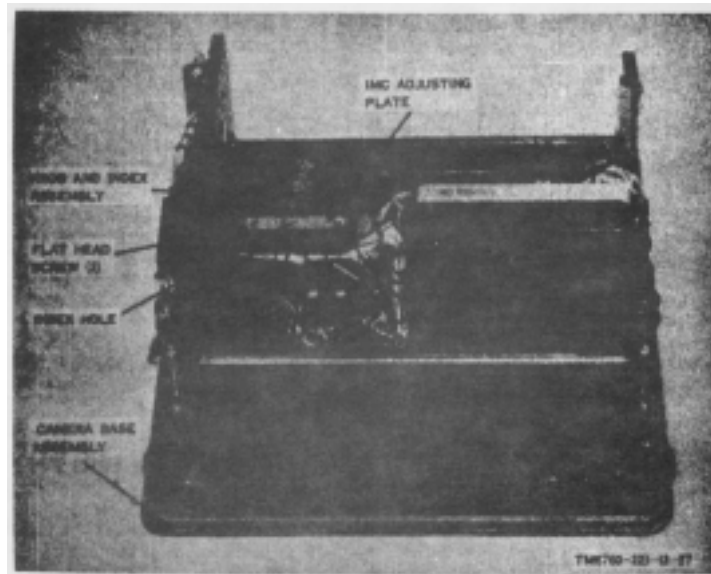

Figure 27. Use of IMC adjusting plate.
- (1) Set the POWER switch in the PANEL POWER section to ON. The AC and DC indicators should light. After 20 to 60 seconds, the READY indicator should light..
- (2) Reset the MILLISECOND TIMER meter by use of the RESET switch.
- (3) if necessary, zero the timer with the ZERO ADJUST control.
- (4) Apply power to the equipment being tested. The MILLISECOND TIMER meter indicates the elapsed time (width or interval) of the signal from the equipment being tested
- (5) Turn off all power and disconnect the test setup.
46. Use of IMC Adjusting Plate (fig. 27)
c. Install the IMC adjusting plate (fig. 27); use the two flathead screws that were removed (b above).